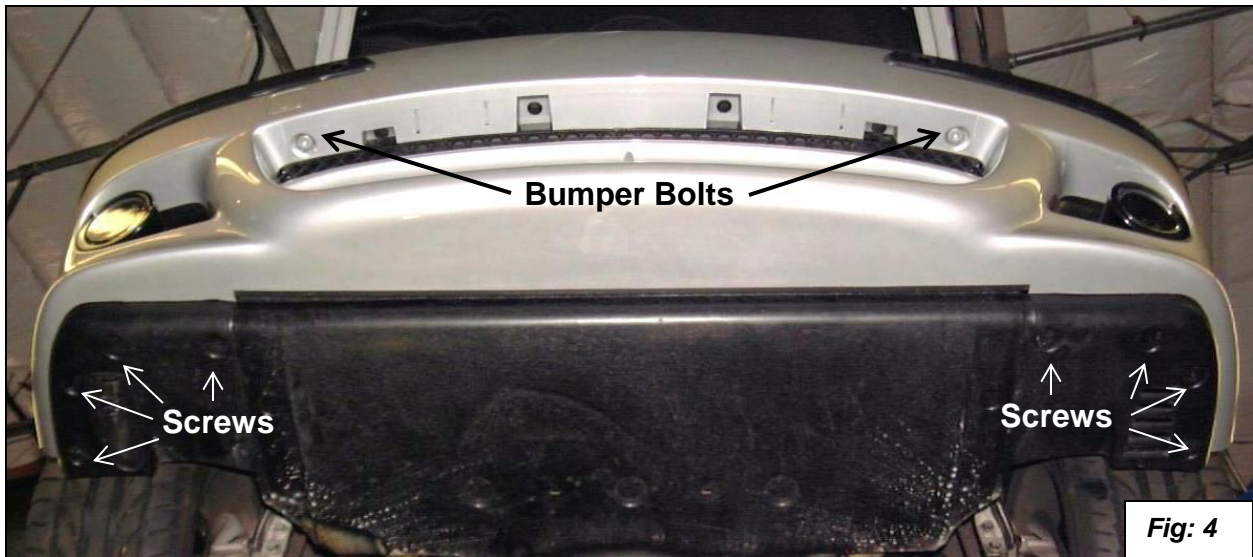

Fig: 4
6. **M Trim Bumper:** First remove both of the lower engine covers. See Figure 4. Remove the one screw on both sides that attach the bumper to the inner fenderwells.
8. There are two bolts that hold the bumper to the bumper shocks. They are located in front just above the center opening in the airdam. Remove these bolts with a T-50 Torx socket. See Figure 4.